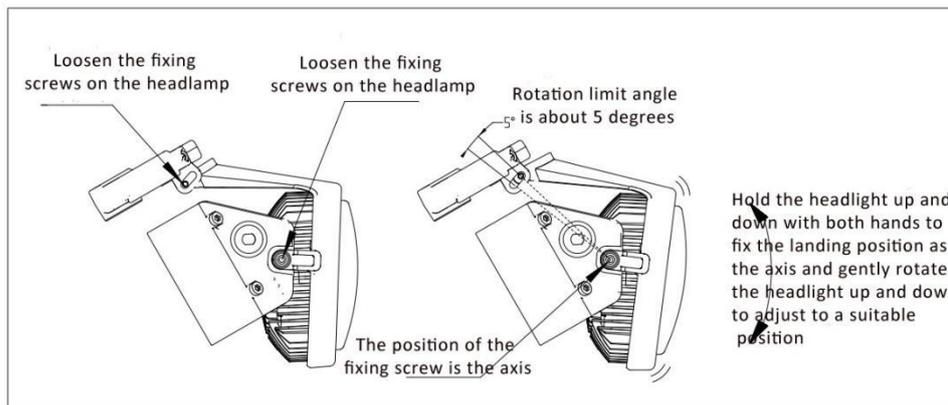

Fig.8
4.6. Headlamp pitch angle adjustment (Figure 8)